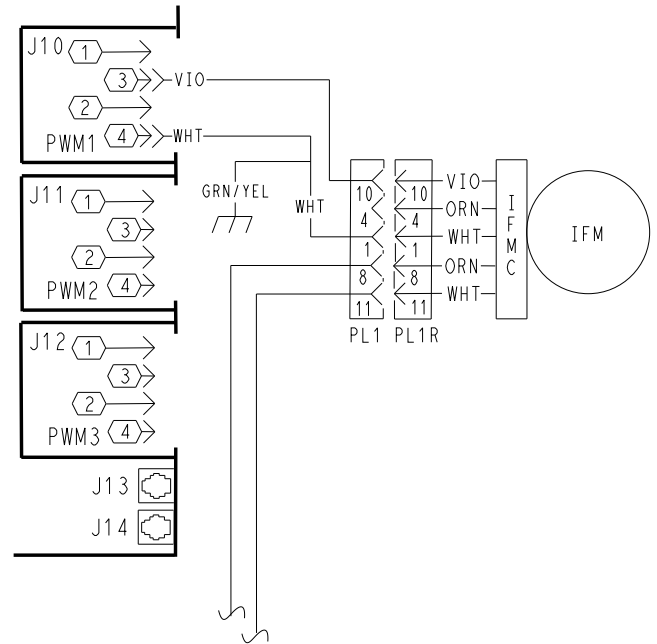

Fig. 10 — Supply Fan Control Wiring Diagram
6. Verify the J10 plug at the SystemVu board is wired per Fig. 10, connected tight, and wires are secured in the plug